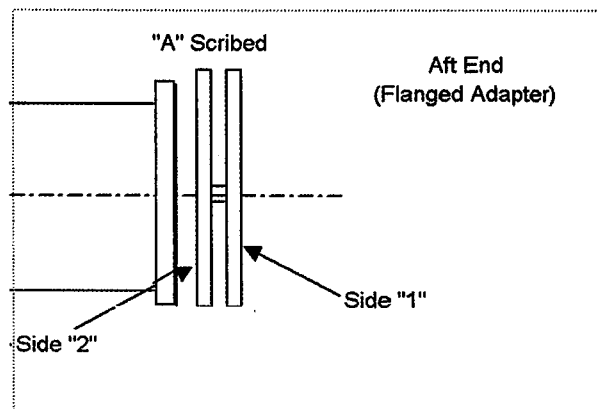

Figure 17 - Aft End Bolt Layout for Sub Assembly Balance
- a. Install bolts (Items 4, 5, 12, 13) into aft flexible coupling (Item 25) using the installation procedure from section E.2. Note the flex coupling is marked with an ink marker (Side "1 & 2"). (See Figure 17). Depending on technique used to rigidize and align flexible coupling flanges, the larger bolts (Items 12 or 13) may or may not be installed at this time.